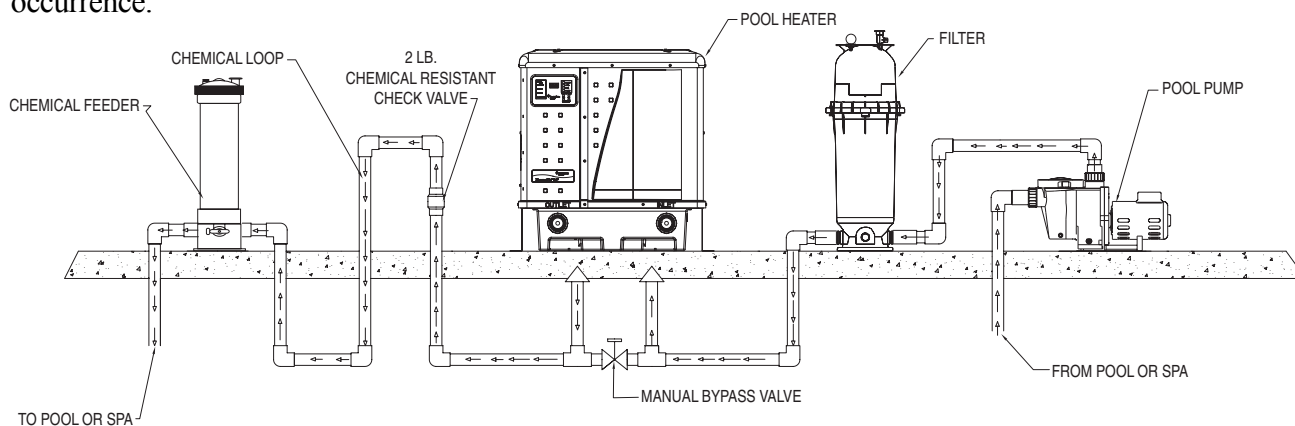

Figure 6. Standard Plumbing Layout
See Figure 6, illustrating the standard plumbing layout with a single heat pump unit. Following the diagram from right to left, the plumbing sequence is as follows:
The heat pump must be protected from back-siphoning of water. If there is any chance of back-siphoning, provide a check valve between the pool and the heat pump outlet. Arrangement of pool system components other than as illustrated in Figure 6. and the following diagrams can affect the operation of the heat pump's water pressure switch. Location of the heat pump above or below the pool water surface can also affect operation of the switch. In general, the pressure switch can be adjusted to accommodate this effect if the heat pump water connections are no more than six (6) feet below the pool water surface or no more than fifteen 15 feet above it. See instructions for pressure switch adjustment (page 20) in the heat pump start-up section of this manual for more information. If the heat pump is installed outside of this range, an external pressure switch may need to be installed in the plumbing upstream of the heat pump. Call the Pentair Water Heat Pump Technical Service department at (800) 831-7133 for details.
The inlet/outlet header of the ThermalFlo HP heat pump comes equipped with an internal automatic flow control valve. The automatic flow control valve maintains the proper flow through the heat pump at rates up to 125 gpm (475 lpm). If the filter system flow rate is higher than 125 gpm (475 lpm), install a manual bypass valve, see Figure 6 on page 7.